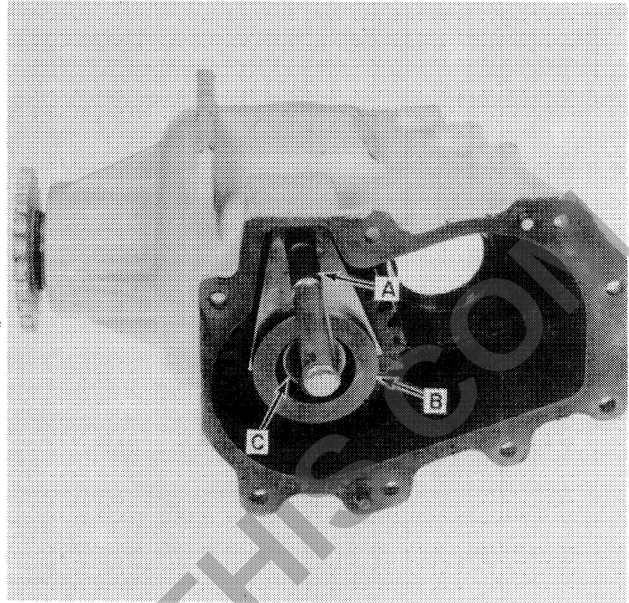

FIGURE 9B-31
5. Remove the eight cap screws, lock washers and nuts, A, Figure 9B-30.